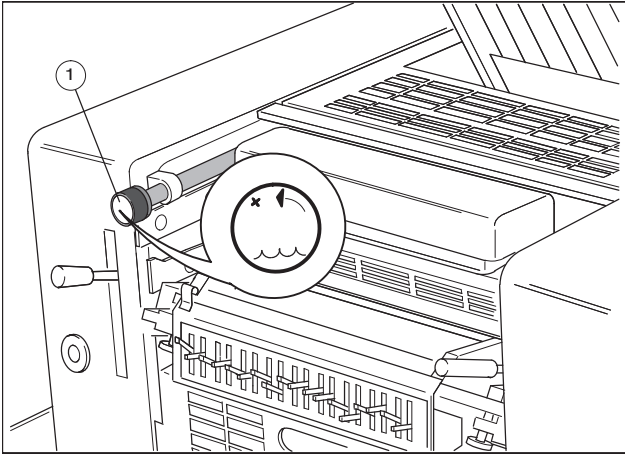

Fig. 16 Dampening solution metering knob, PU 1
1. To separate the dampening form roller from the water pan roller, press in the control knob (Fig. 16/1) and turn counterclockwise up to stop.